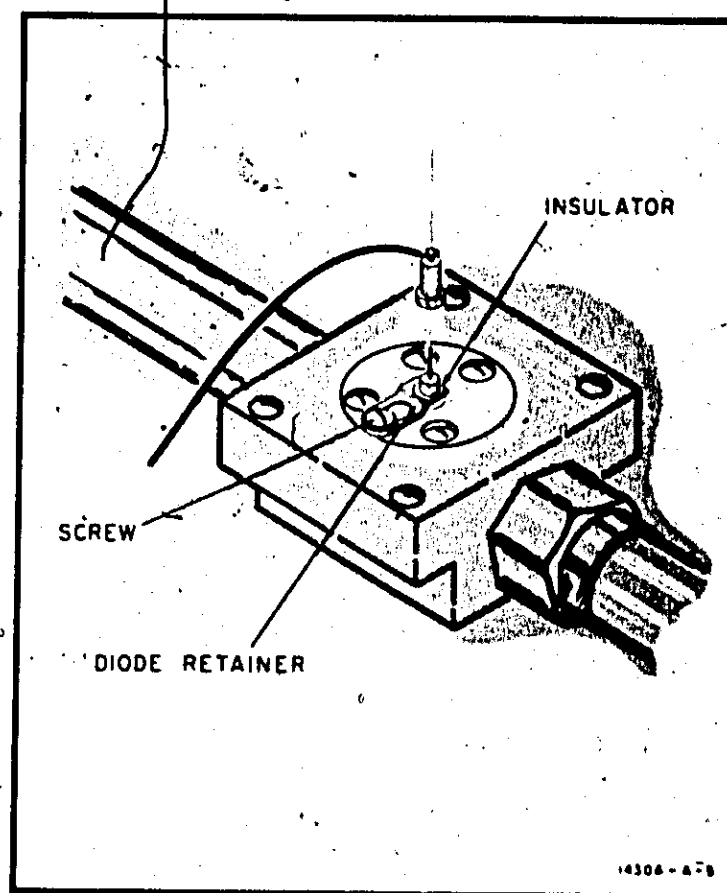

Figure 8-1. Diode Removal, Model 1430A and 1431A
- a. Loosen the screw and slide the diode retainer away from the insulator as shown in Figure 8-1.